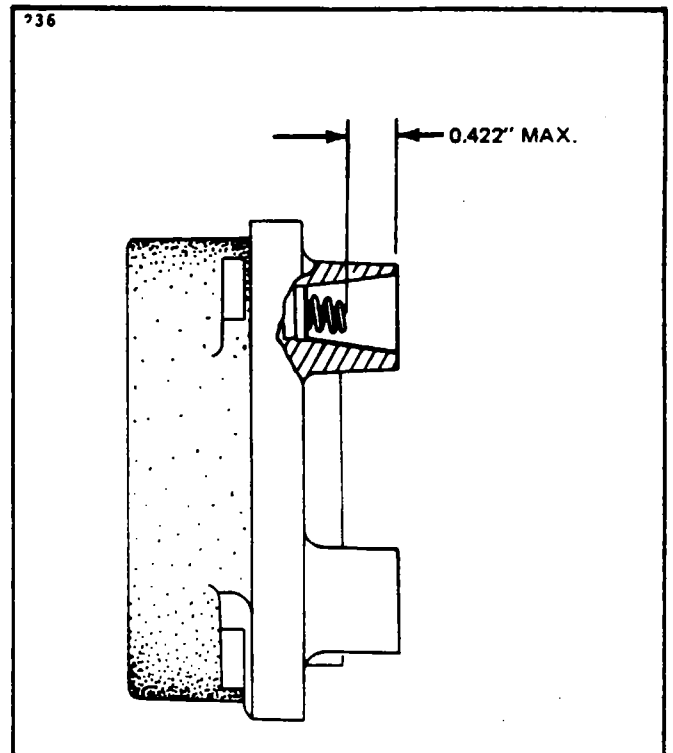

Figure 8-12. Height of Spring in Distributor Block Tower
- d. Check height of contact springs (0.422 maximum from top of block tower to spring.) (Refer to Figure 8-12.)